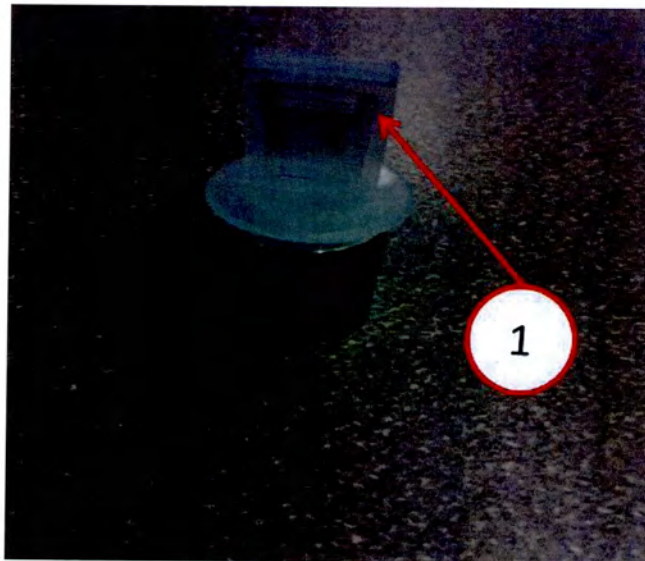

Fig. 6 Clutch Cap With Plug
6. Remove dust plug from cap part number 68166291AA and discard (Fig. 6).